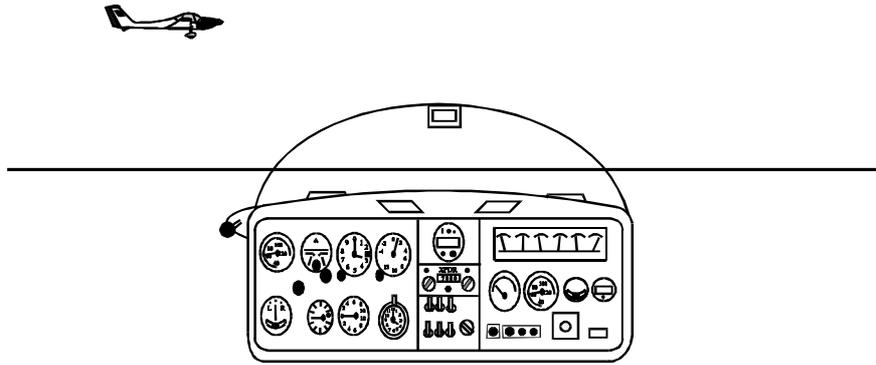

Fig 2. "Aircraft left 11 o'clock high".
2. **Airmanship - clock code.** Airmanship is the airborne equivalent of road craft and is a skill which develops with experience. It includes awareness of other traffic, remaining within safe gliding range of a suitable landing area, considering the effect of approaching weather, and maintaining a high level of situational awareness. At the start of your training the instructor takes full responsibility for the airmanship but as your training progresses you will be expected to develop a good standard of airmanship for yourself before being allowed to fly solo. This will include judging how to remain within gliding range of the airfield and keeping a good look out for other aircraft. Even on your first flight you provide another useful pair of eyes to see other aircraft and you should report any that you see to your instructor. At some stage you will be taught the use of the clock code to report sightings. This code assumes you are at the centre of a clock and therefore 12 o'clock is directly ahead, 3 o'clock is directly to your right, 6 o'clock directly behind you, and 9 o'clock directly to your left. So to report an aircraft that appears above the horizon and slightly left of directly forward you should say "Aircraft left 11 o'clock high". See Fig 2. If you can estimate the distance that will also be useful.